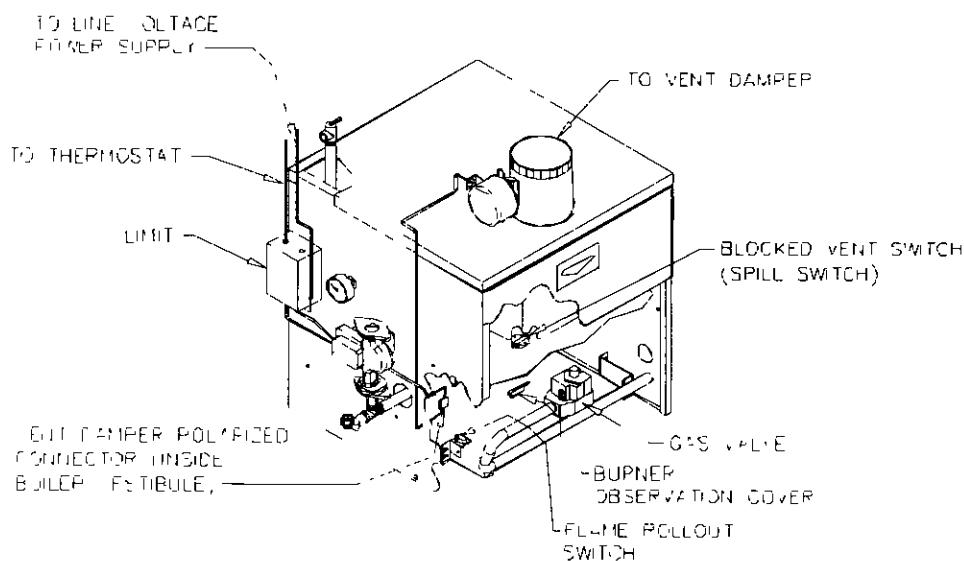

Figure 16: Wiring, Controls and Safety Devices
- 1 See Figure 16 for location of wiring and controls
- 3 Connect the vent damper harness to the polarized connector in the boiler vestibule as shown in Figure 16
- 1 For proper location of controls and accessories refer to Figure 16 and Section 11